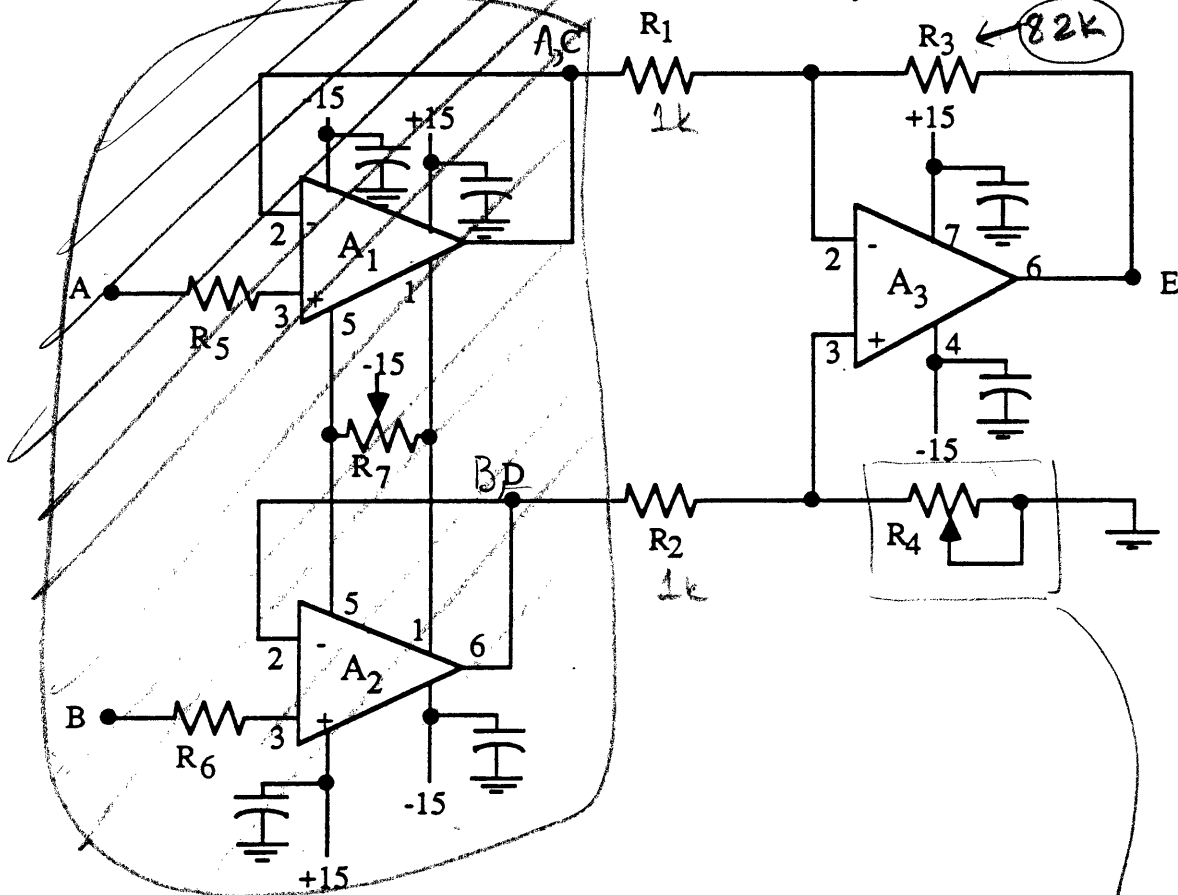

Figure 3 - Practical Instrumentation Amplifier
Practical instrumentation amplifiers use circuits similar to Figure 3. The amplifiers A_1 and A_2 increase the input impedance. Basically, A_1 and A_2 are connected as voltage followers, i.e. $\times 1$ voltage amplifiers.
- (1) Build the circuit of Fig.3. Use 1k resistors for R_1 and R_2 , a ^{82k}100k resistor for R_3 , and 2.2k resistors for R_5 and R_6 . R_7 is a 10k pot. R_4 is a 100k pot. Use LM741's for A_1 and A_2 . Use a LF357 for A_3 . All capacitors unless otherwise shown are 0.05 μ F bypass capacitors.
- (2) Measure R_1 , R_2 and R_3 with your DMM. Record the values in Table 7.2. Calculate